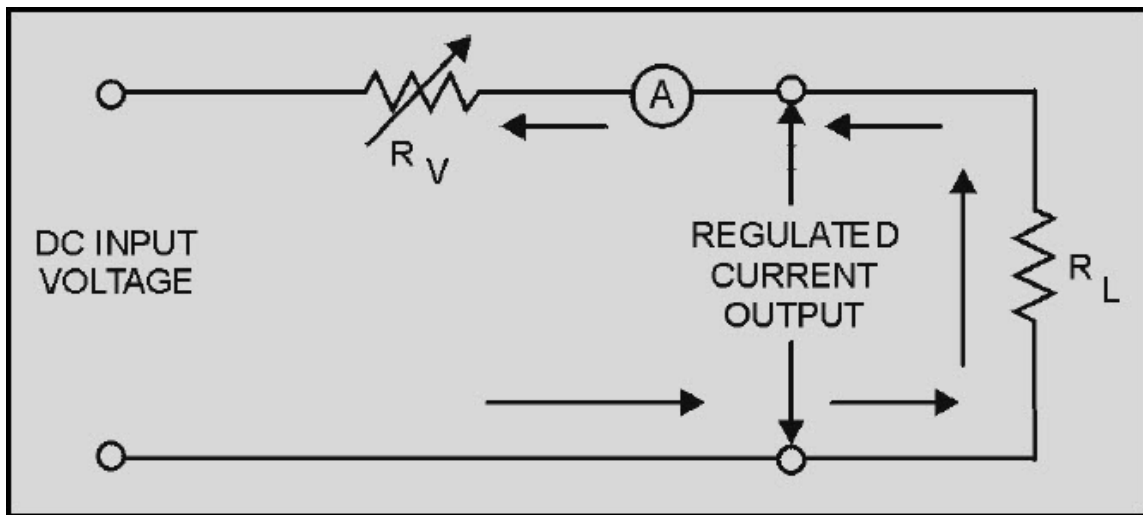

Figure 4-40 Current regulator (simplified)
You should now know how voltage regulators work to provide constant output voltages. In some circuits it may be necessary to regulate the current output. The circuitry which provides a constant current output is called a constant current regulator or just CURRENT REGULATOR. The schematic shown in figure 4-40 is a simplified schematic for a current regulator. The variable resistor shown on the schematic is used to illustrate the concept of current regulation. You should know from your study of voltage regulators that a variable resistor does not respond quickly enough to compensate for the changes. Notice that an ammeter has been included in this circuit to indicate that the circuit shown is that of a current regulator. When the circuit functions properly, the current reading of the ammeter remains constant. In this case the variable resistor (RV) compensates for changes in the load or dc input voltage. Adequate current regulation results in the loss of voltage regulation. Studying the schematic shown, you should recall that any increase in load resistance causes a drop in current. To maintain a constant current flow, the resistance of RV must be reduced whenever the load resistance increases. This causes the total resistance to remain constant. An increase in the input voltage must be compensated for by an increase in the resistance of RV, thereby maintaining a constant current flow. The operation of a current regulator is similar to that of a voltage regulator. The basic difference is that one regulates current and the other regulates voltage.
Q36. In figure 4-40, when there is an increase in the load resistance (R_L), the resistance of R v increases/decreases (which one) to compensate for the change.